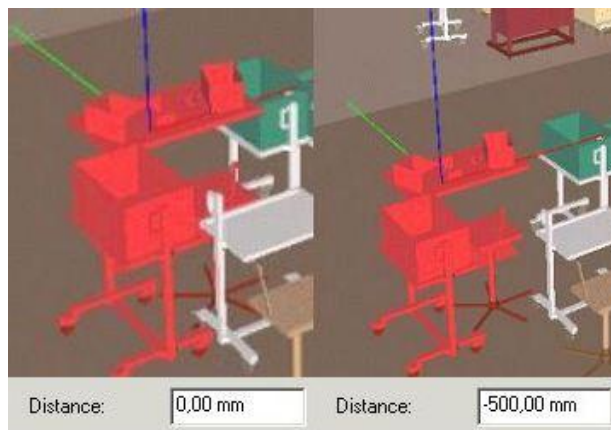

Figure 49: Example: Translating X-Axis, Relative Coordinate System
- 4) Using **Reset** you can reset the **Distance** value to zero. Press the **Close** button to close the dialog. *Please refer to the Figure 49.*